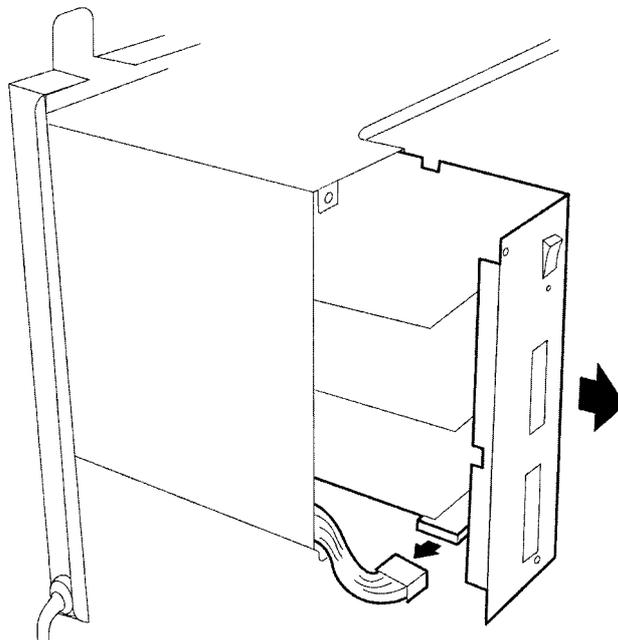

Figure 4-40 Disconnecting Cable from the PSU
3. Pull out the power supply being removed, and disconnect the white cable attached to the MBD-U13 unit from the PSU. Refer to *Figure 4-40 Disconnecting Cable from the PSU*.